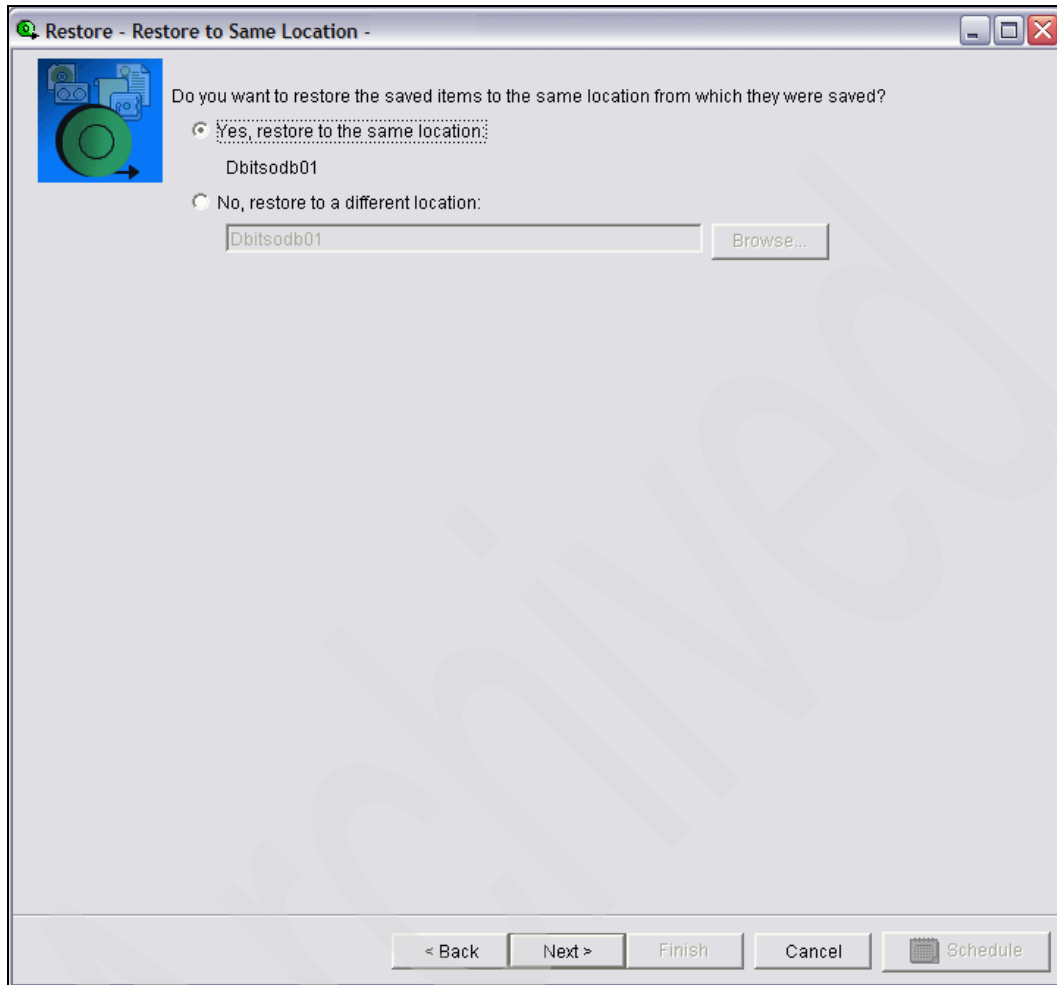

Figure 7-70 BRMS restore, same location
5. To restore to the same location, select **Yes, restore to the same location**, and click **Next**, as shown in Figure 7-70 on page 397.